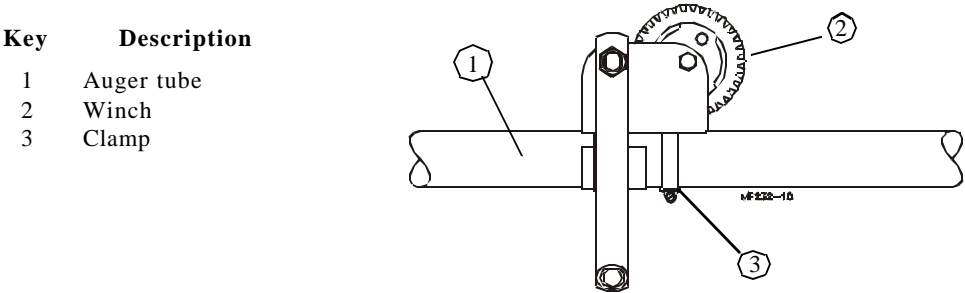

Figure 40. Winch Installation (side view)
1. Use two band clamps provided to fasten the winch to the feeder line tube. See Figure 40.